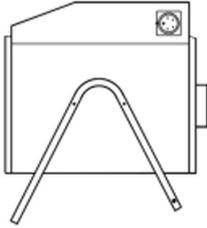
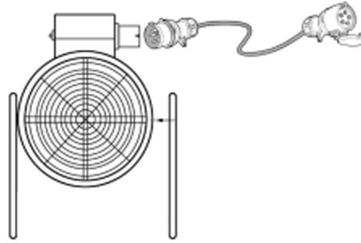

Figure 3
Figure 4
6.3 Open the lid of the coupler, push in the direction as shown by arrow in figure 3. The position pin on the lid will fasten in the position buckle as figure 4, after the installation of the coupler it will look as showed in the figure. Before you turn on the appliance make sure that the selector switch and the thermostat are switched OFF, so that when you connect the plug with power supply , there will be no sparks induced between the plug and the socket outlet. This can extend the work life of the plug. Then connect the plug to the power to operate the appliance . During the operation if sparks was detected at the connection, shut off the appliance and connect again.
7.1 Connect heater with coupler as FIG 4